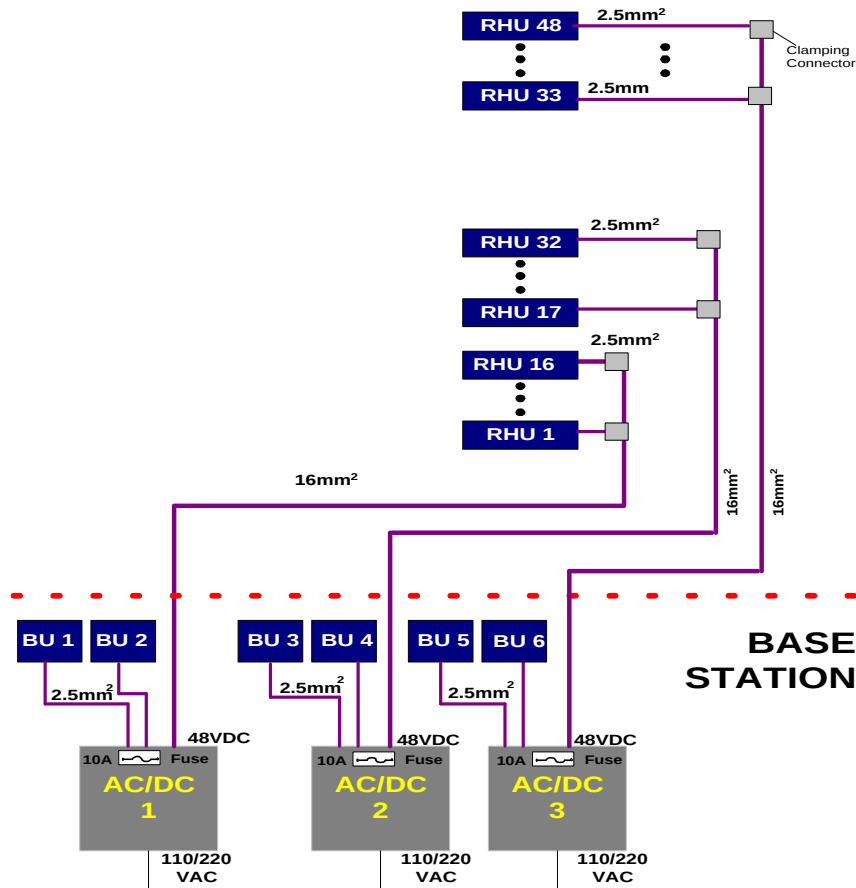

Figure 3-2: EXAMPLE: DC Power Supply in High Rise Installation
- **Option One.** In this option, the BU is connected to the power supply via electrical cables. In order to power the RHU from the power supply, two copper electrical wires running through the building (separately from the fiber optic cables) supply power to each RHU in parallel. For this configuration, electrical power calculations are needed. The option is shown in Figure 3-2.
The example in Figure 3-2 depicts a MobileAccess™ GSM Dual Band installation with 500W/ 48VDC AC/DC converters providing a total of 0.5A power.